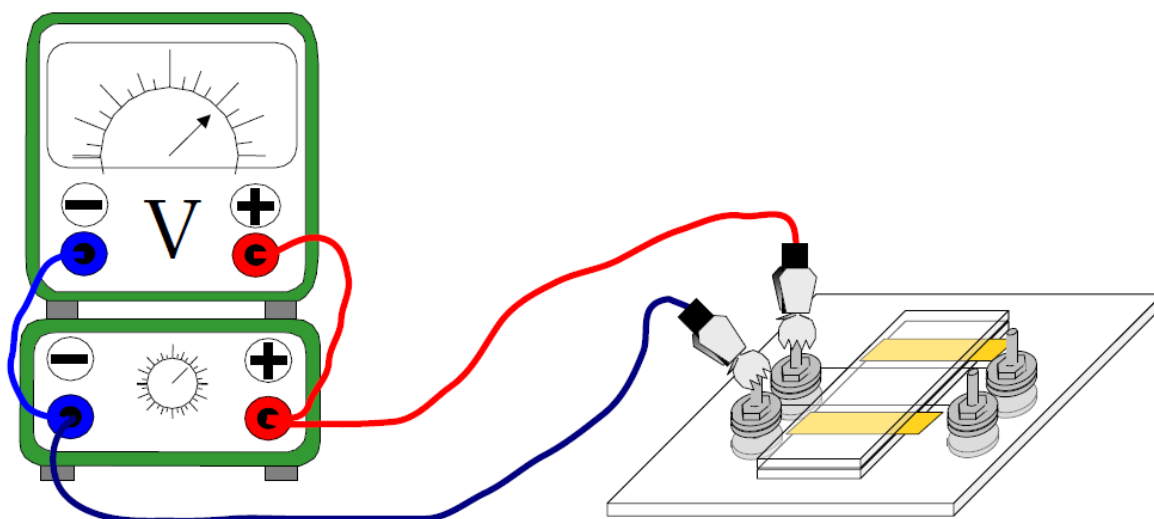

Figure 38 Set-up of the electrolysis device with power supply (bottom), multi meter (top) and pH-paper (yellow strips in between the transparent plates)
2. Place a piece of pH-paper at a distance of about two millimetre from each of the two platinum wires, as indicated in figure 38
4. Place the separate transparent plate on top of the fixed plate, as indicated in figure 38
6. Connect the power supply and the multi-meter to the device, as indicated in figure 38